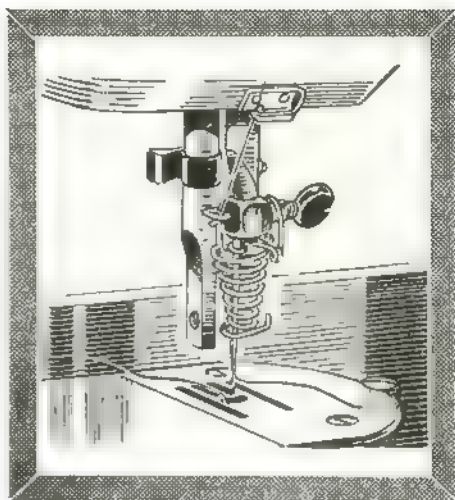

FIG. 33
1. Remove the presser foot. The embroidery spring (No. 15, page 20), is not attached to the presser bar. It is fitted to the needle bar (Fig. 33). Hold the embroidery spring arch shape upwards and pass the needle through the small hole. Ease the arch shape over the shank of the needle clamp.